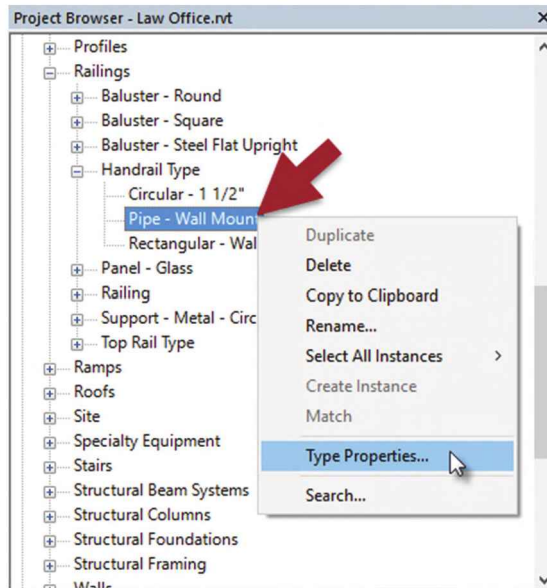

FIGURE 7-7.15 Modify handrail type
26. Right-click on **Pipe – Wall Mount** and select **Type Properties** (Figure 7-7.15).